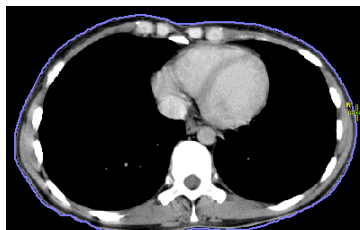

Figure 197 – Defining the right point of bolus
- The mouse cursor is now marked as **R**. Click in the rightmost point of the bolus like above (see Figure 197).